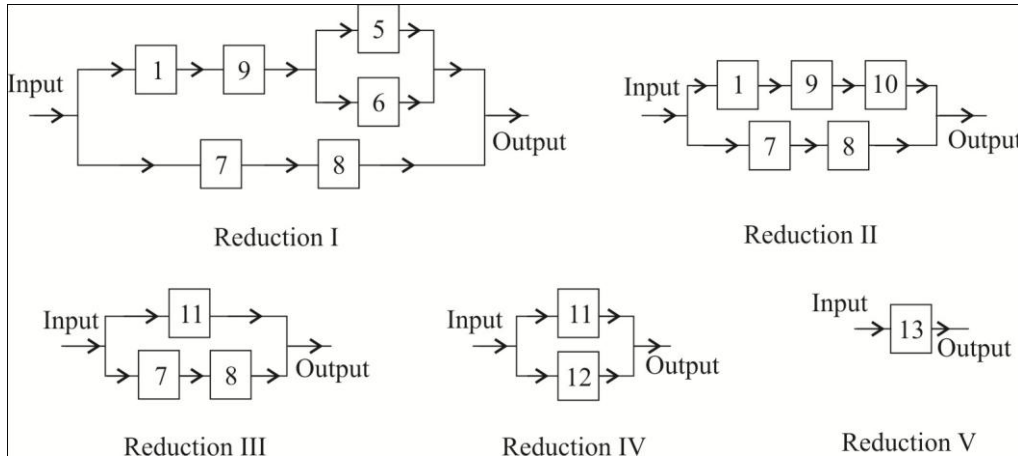

Fig. 14.11: Reductions I to V of Fig. 14.10.
- **Reduction I:** Combine the components 2, 3, 4 in parallel configuration to form an equivalent component 9 (see reduction I in Fig. 14.11).
- **Reduction II:** Combine the components 5, 6 in parallel configuration to form an equivalent component 10 (see reduction II in Fig. 14.11).
- **Reduction III:** Combine the components 1, 9, 10 in series configuration to form an equivalent component 11 (see reduction III in Fig. 14.11).
- **Reduction IV:** Combine the components 7, 8 in series configuration to form an equivalent component 12 (see reduction IV in Fig. 14.11).
- **Reduction V:** Finally, combine the components 11 and 12 in parallel configuration to form an equivalent component 13 (see reduction V in Fig. 14.11). The component 13 represents the complete system.
The step by step reduction process is shown in Fig. 14.11.